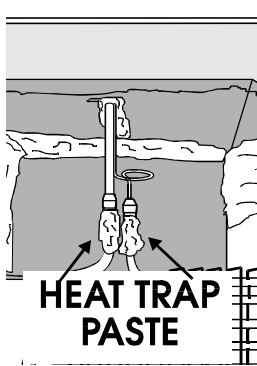

Fig. 7
10. Apply a generous amount of heat trap paste to the aluminum to copper transition of the inlet and outlet of the evaporator. (Fig. 7)